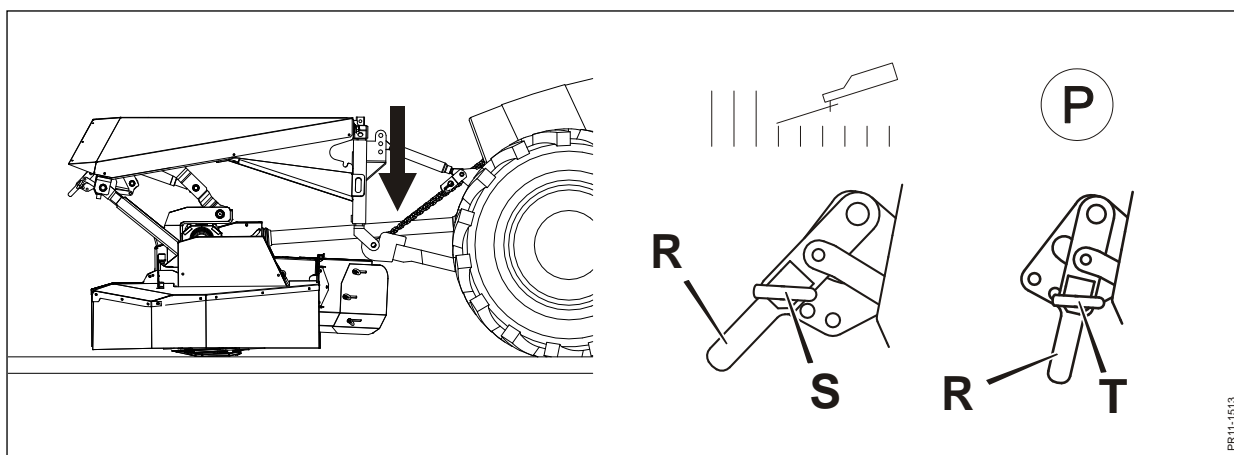

Fig. 3-6
**Fig. 3-6** The machine is placed in parking position by moving the handle **R** from pos. **S** to pos. **T**. Afterwards you lower the A-frame **K** until the top link gets loose. You can now adjust the length of the top link.